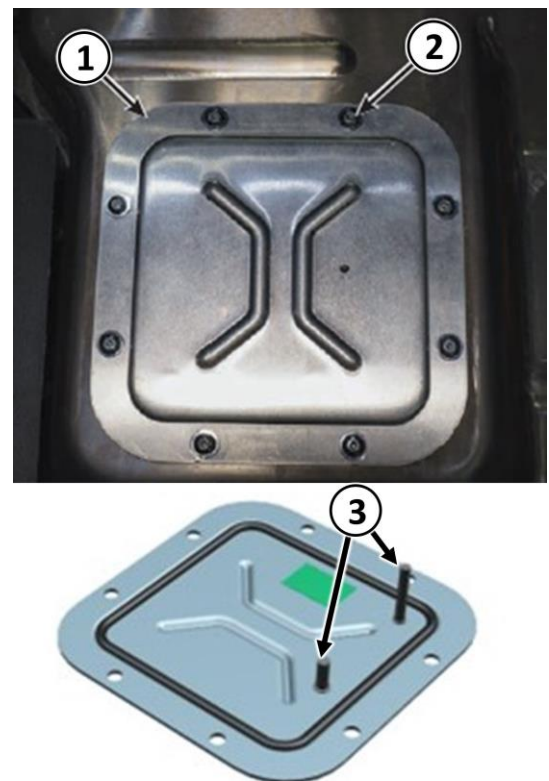

Figure 6 – Test Point Access Cover
9. Remove the Torx screws (2) from the high voltage service test points access cover (1) (Figure 6).
10. Carefully remove the test points access cover and set in a protected location so that the cover plate alignment and HVIL pins (3) are not damaged (Figure 6).